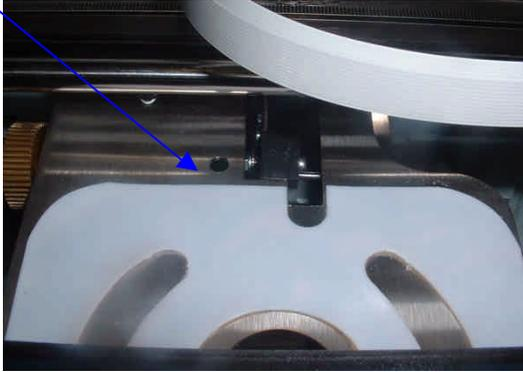
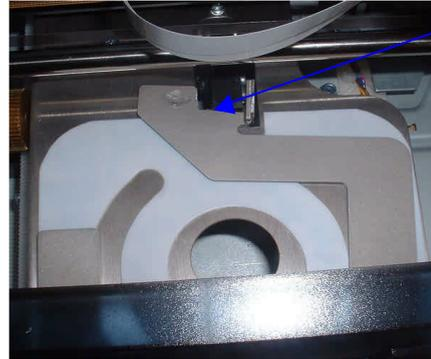

Fig. 5
Fig. 6
5. Fit Part 2 of the adaptor matching the pin on the adaptor to the hole on the CD tray (Fig 5 & Fig. 6).
7. Place the inkjet printable CD Business Card or Mini Disc into the adaptor, ensuring that it sits completely flat (Fig. 6).